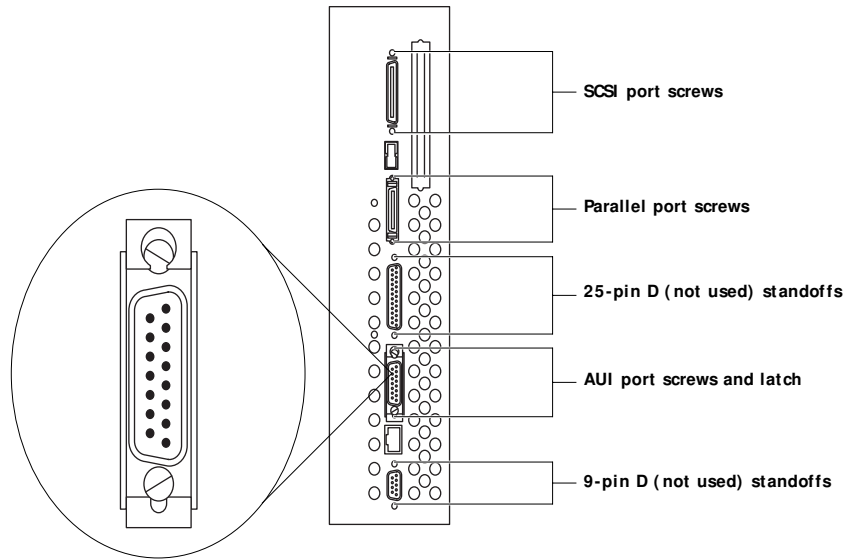

FIGURE 4-8 External connector hardware on E-650 pan
9. Remove and set aside the screws (and washers, if present), standoffs, and AUI latch that attach the external connectors to the pan (see Figure 4-8).
4. **Insert the screws (and washers, if present), standoffs, and AUI latch that attach the external connectors to the pan (see Figure 4-8 on page 4-12).**
For the AUI latch, use a small flat-blade screwdriver to install the screws. Orient the AUI latch according to Figure 4-8 on page 4-12. Install one screw almost completely, place the latch over the connector, then install the second screw.